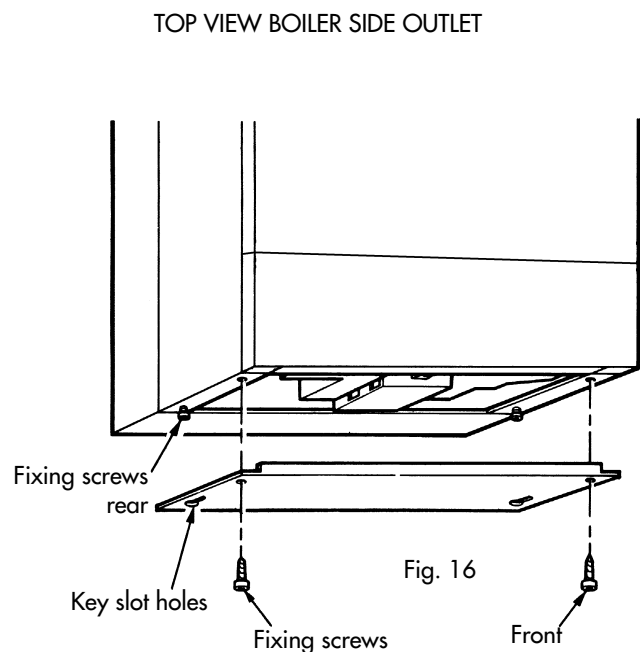

Fig. 16
- 4.2 Remove the boiler base plate, four screws (fig. 16). Remove the plugs fitted to the boiler water connections. Remove the bag of sealing washers from the boiler pipe work.
- 5.2 Remove the boiler base plate, four screws (fig. 16). Remove the plugs fitted to the boiler water connections. Remove the bag of sealing washers from the boiler pipework. Remove the front panel by gripping on both sides, sliding up and pulling away from the main boiler.